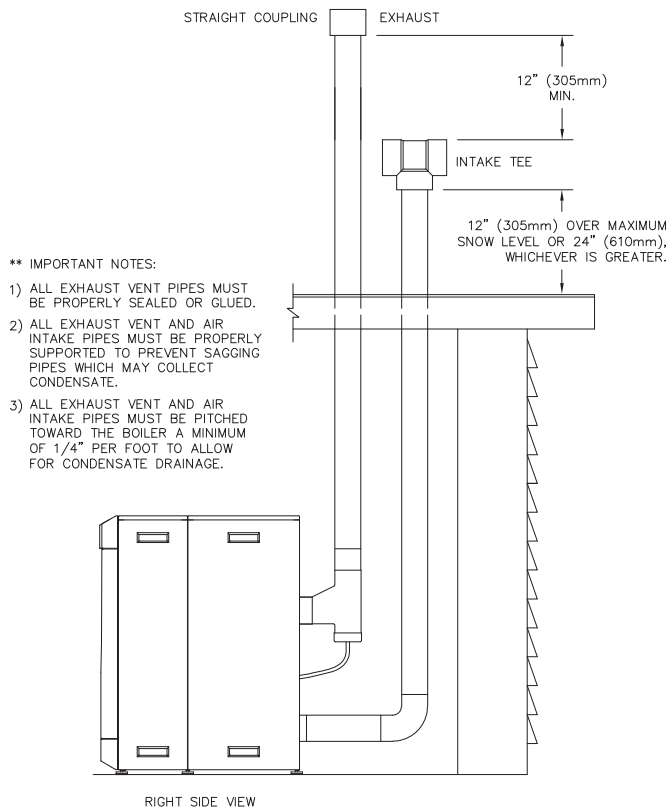

Figure 3.6: Vertical Exhaust and Air Inlet Pipe
8. Figures 3.6 through 3.8 show recommended vertical venting configurations.
- a. Figure 3.6 illustrates a vertical venting configuration using PVC inlet and exhaust. A similar configuration can be constructed using a FasNSeal stainless steel vent termination. PVC or other approved materials may be used for air inlet piping.